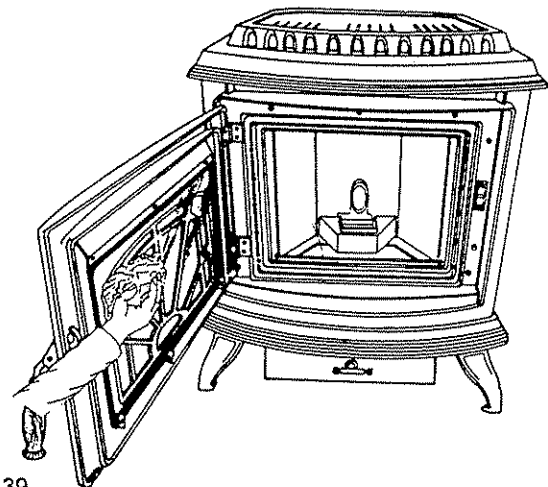

Fig. 39
2. Using a very fine steel wool gently wipe the glass from left to right until deposits are removed. (see fig.39)